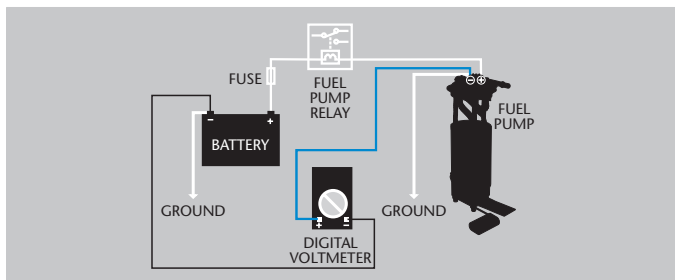

Figure 1. Voltage Drop Test – Negative Circuit (-)
2. Connect digital voltmeter negative lead to the negative battery terminal and the positive lead to the negative terminal at the fuel pump (see Figure 1).